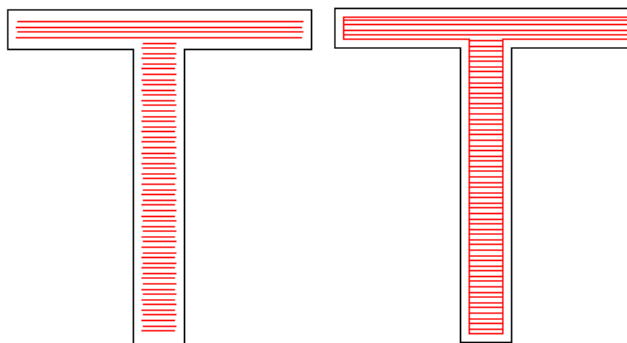

Figure 3-8 Follow edge one
**Follow edge one time:** draws outline one time around the hatch lines after filling (Figure 3-8)